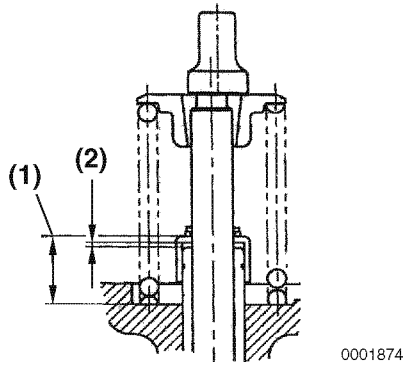

Figure 6-31
2. Measure the distance (**Figure 6-31, (1)**) from the cylinder head to valve stem seal to ensure proper clearance (**Figure 6-31, (2)**) between the guide and the seal. See *Valve Stem Seal Projection specification on page 6-7*.